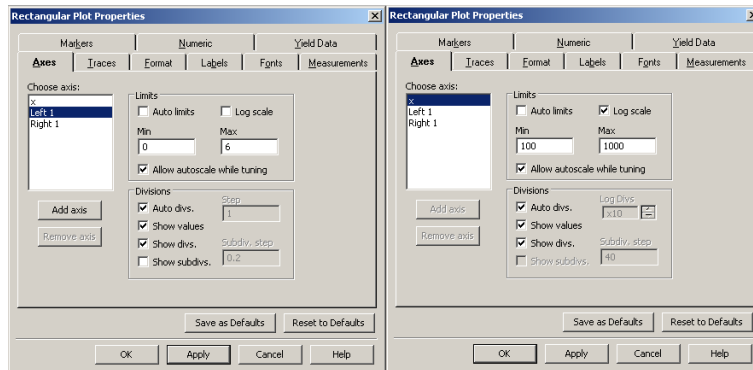

Figure 6.4: Chart 4 : VSWR Graph Properties Dialogue Box
- The properties dialogue box should look like figure 6.4